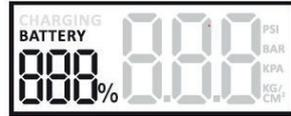

Fig.1
1. Press any key, blue LCD Display is lit, showing «Battery XX%» (Fig.1) and maintain the 30 s.